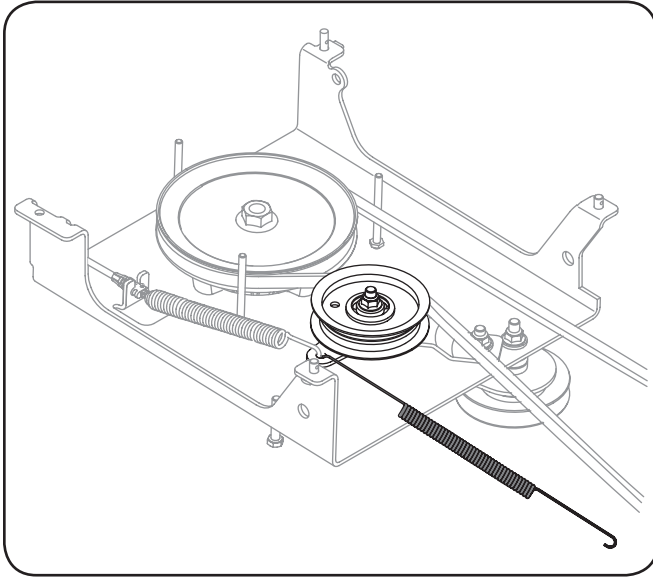
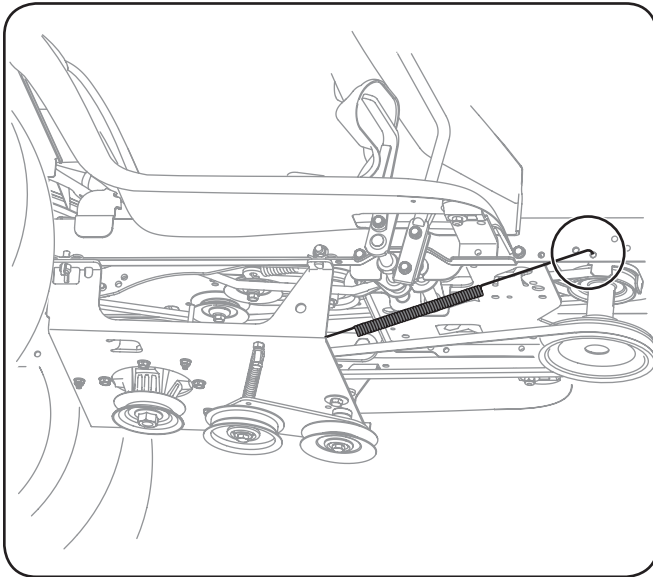

Figure 3-7
Figure 3-8
- Attach one end of the long extension spring (found in the hardware pack) to the idler pulley bracket and the other end to the tractor's frame rail. See Figure 3-7 and Figure 3-8.